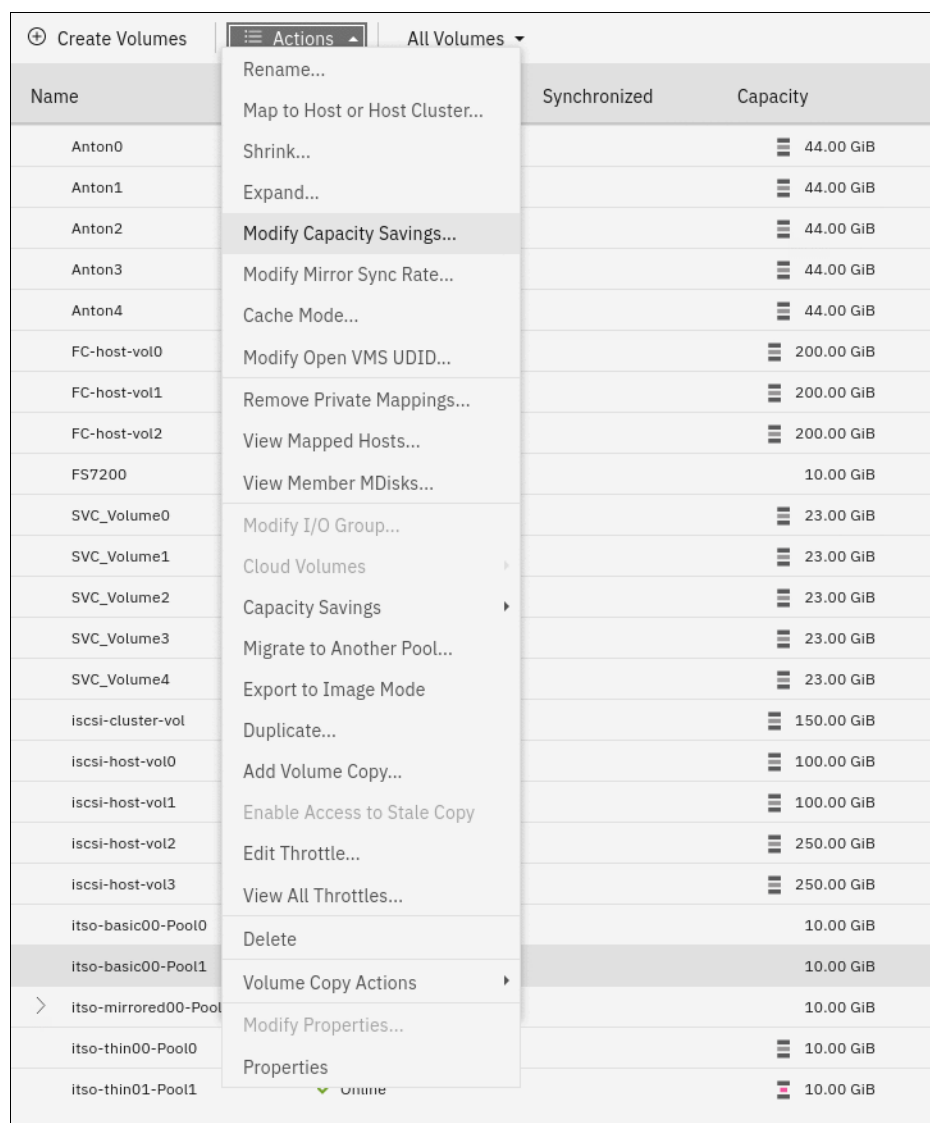

Figure 6-47 Modify Capacity Savings menu item
1. From the **Volumes** menu, select the volume that you want to modify. Select **Actions** → **Modify Capacity Savings...**, as shown in Figure 6-47.